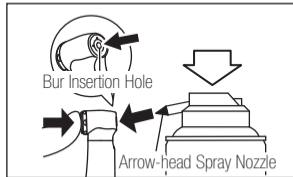

Fig. 6
- 2) Lubricate the chuck directly through the bur insertion hole. (Fig.6)